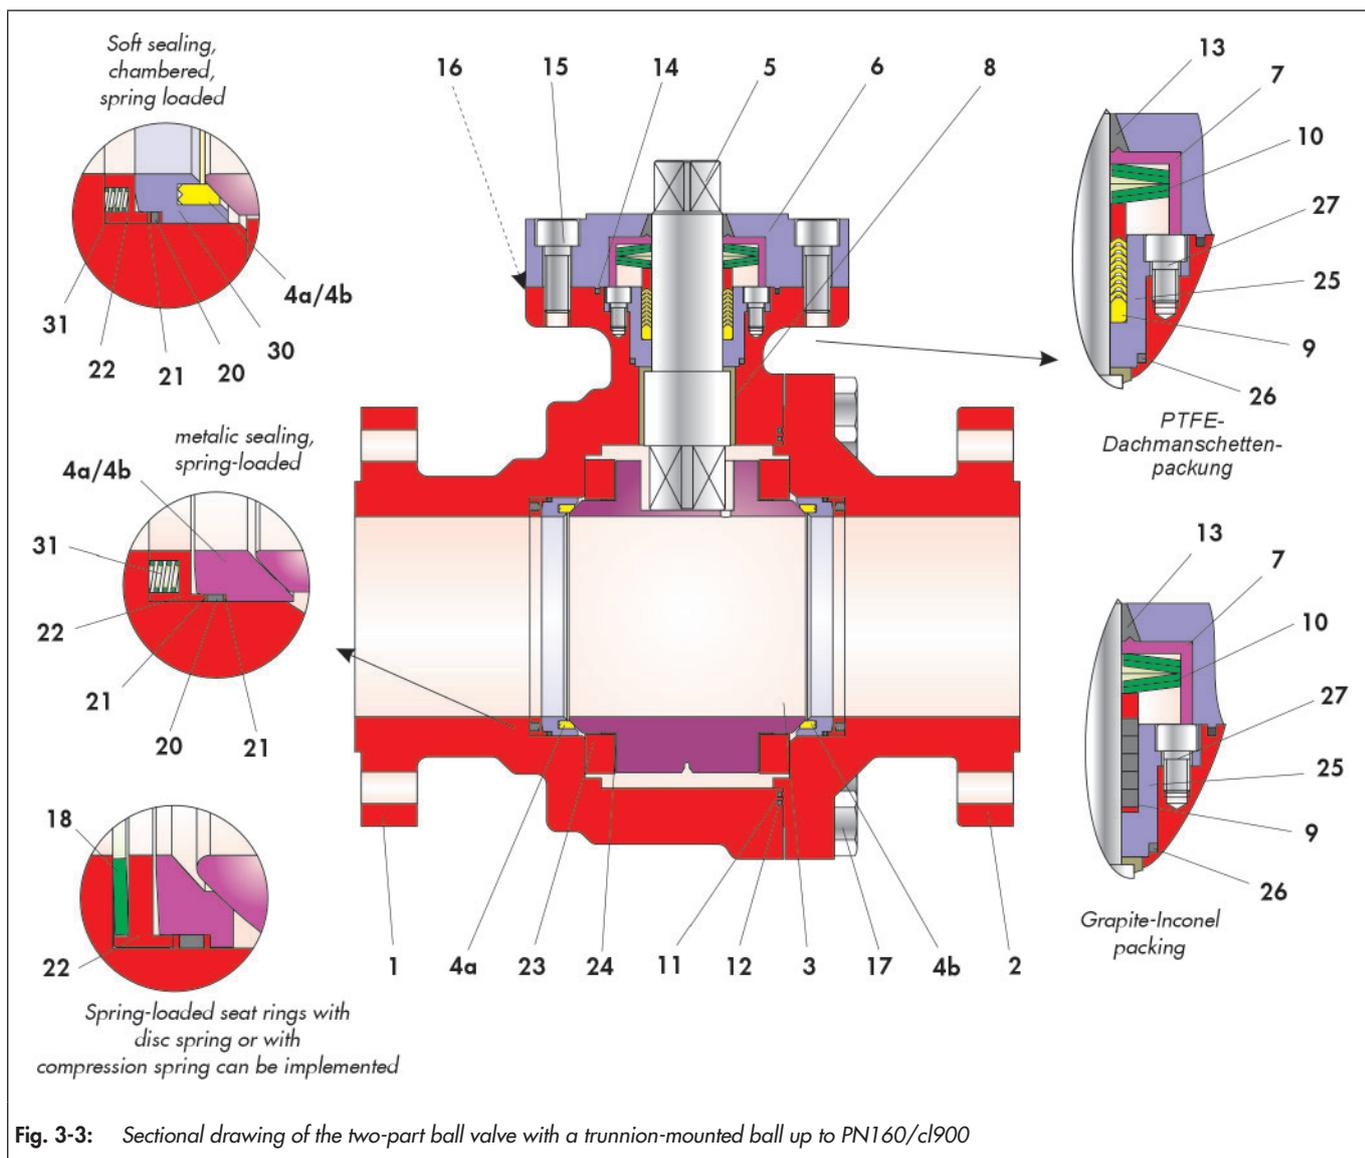

Fig. 3-3: Sectional drawing of the two-part ball valve with a trunnion-mounted ball up to PN160/cl900
The position and arrangement of the individual parts shown in Fig. 3-3 must be observed during assembly.
- ⇒ Do not damage the sealing surface of the control shaft (5).
- ⇒ Position the bearing bush (8) with the control shaft (5) into the ball support (3) without twisting it.
- ⇒ Insert the ring (26) into the packing bush (25).
- ⇒ Fill the packing bush (25) with V-ring packing or graphite packing (9). Arrangement of the V-rings see Fig. 3-3.
- ⇒ Push the preassembled packing bush with a slightly rotary movement without excessive force over the assembled control shaft (5).
- ⇒ Screw the packing bush together with screws (27) evenly and in a criss-cross pattern.
- ⇒ Place the disc spring set (10) on the packing (9). Arrangement of the disc springs, see Fig. 3-3.
- ⇒ Push the bush (7) over the control shaft (5) such that they lie on the disc spring (10) and centre them.
- ⇒ Push the carbon-graphite ring (13) carefully over the control shaft (5) up to the bush (7).
- ⇒ Insert the carbon-graphite ring (14) into the groove of the stuffing box flange (6).
- ⇒ Place the stuffing box flange (6) over the control shaft (5) onto the main body (1).
- ⇒ Lightly grease the screws (15).
- ⇒ Evenly adjust the stuffing box flange (6) with the screws (15) and tighten in a criss-cross pattern.